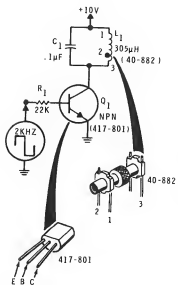

Figure 4-86
2. Construct the circuit shown in Figure 4-86 on your ET-3100 Experimenter. Plug the inductor into the breadboarding socket. The inductor is tapped and has three active terminals. For this experiment, use the entire inductance. Set the generator to 2,000 Hz and connect the square wave output to the 22 k Ω transistor input resistor. Use the positive power source to supply the circuit. Set the control at 10 volts.
Use the values given in the schematic for this circuit (Figure 4-86) and compute the resonant frequency of the tank circuit you constructed.